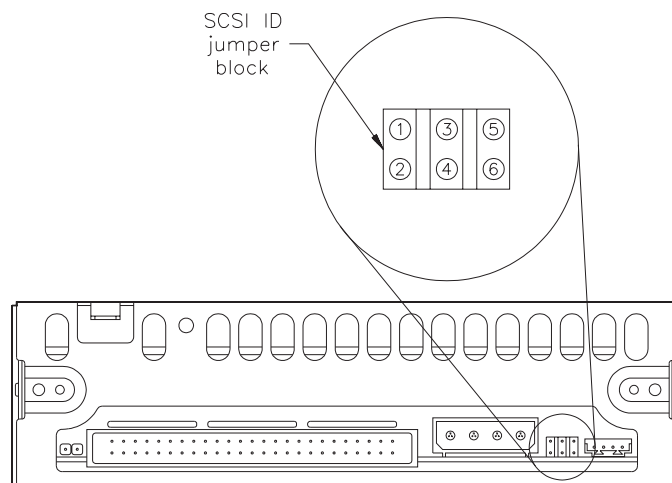

Figure 4-1 SCSI ID jumper block on the back panel (single-ended configuration)
- Remove and reposition the jumpers on the SCSI ID jumper block on the back of the tape drive (see Figure 4-1).